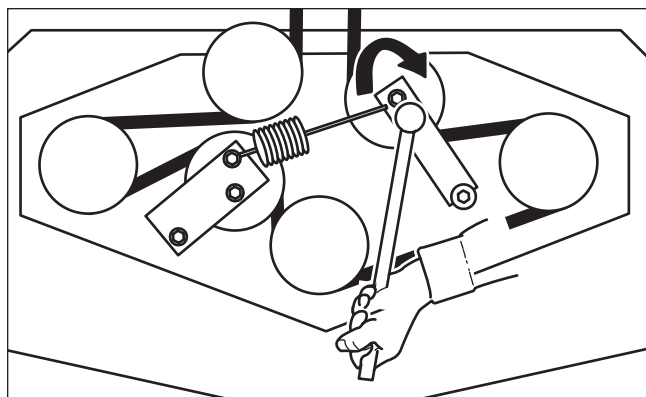

Figure 40. Mower PTO Belt
3. Using a 1/2" breaker bar, place the square end in the square hole located in the end of the idler arm (A, Figures 40). Carefully rotate the breaker bar **CLOCKWISE**, which will relieve the tension on the belt exerted from the idler arm.
6. Install the drive belt on the PTO pulley, the spindle pulleys and all idler pulleys except the stationary pulley (B, Figure 40). Carefully rotate the breaker bar **CLOCKWISE** and install the belt on the stationary idler pulley (B). Carefully release the tension on the breaker bar.